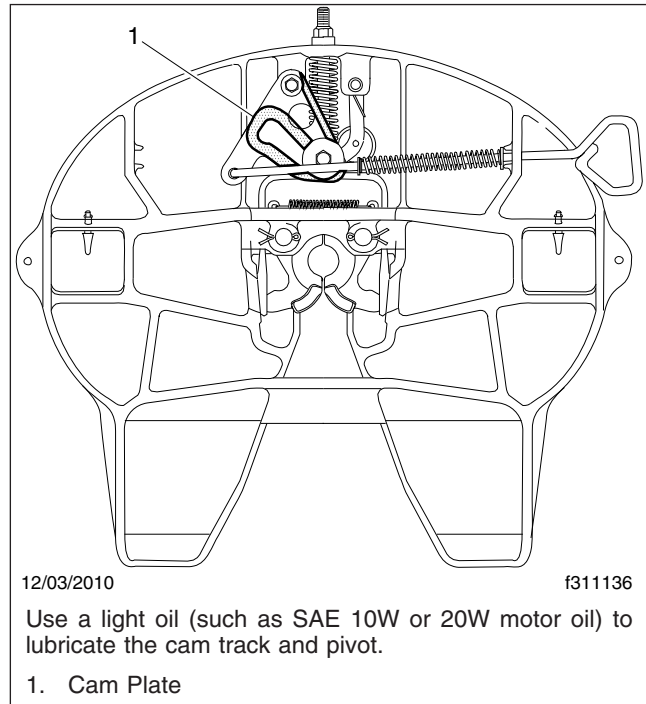

Fig. 7, Holland FW35 Fifth Wheel, Oil Lubrication
2. Using a light oil (such as SAE 10W or 20W motor oil), lubricate the cam track and pivot. See Fig. 7.